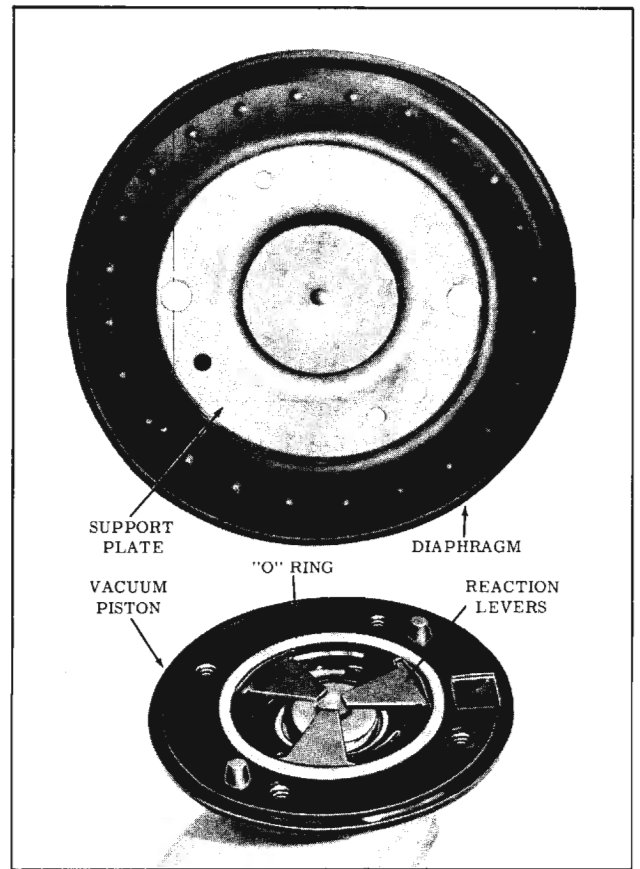

Fig. 7-20 Removing Support Plate from Piston
1. Remove the support plate and diaphragm from the vacuum piston assembly by removing the four attaching screws. Separate diaphragm from support plate. (Fig. 7-20)